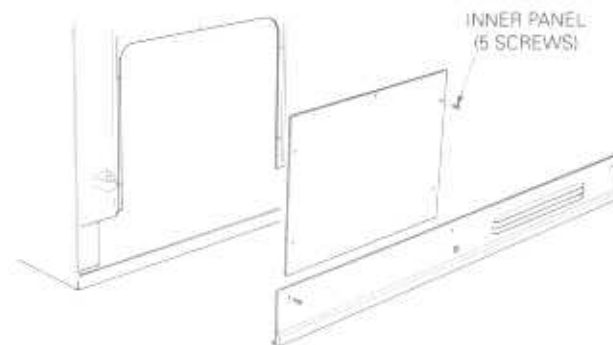

FIG. 8
- SEE FIG. 8
2. Remove (5) inner panel securing screws and remove panel.
3. Remove the (3) plinth securing screws and remove plinth.